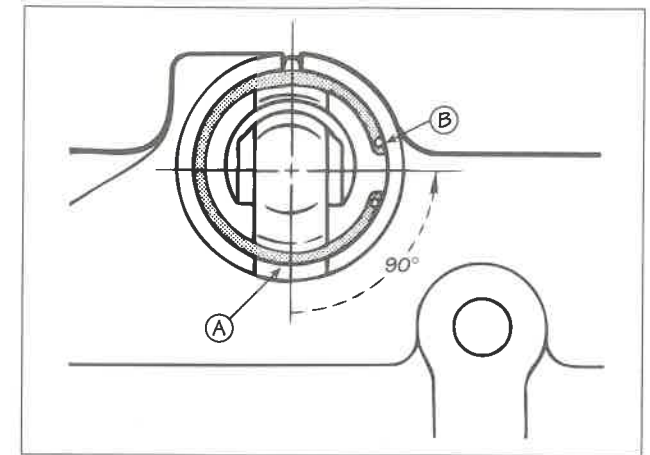

FIG. 43
9. Rotate the retaining ring ears 90° counterclockwise from the large rocker arm clearance gap (A) in the housing (see Fig. 43).
MAKE SURE THE RETAINING RING IS POSITIONED AS SHOWN IN B, FIG. 43. FAILURE TO DO SO MAY RESULT IN ENGINE AND ENGINE BRAKE DAMAGE.